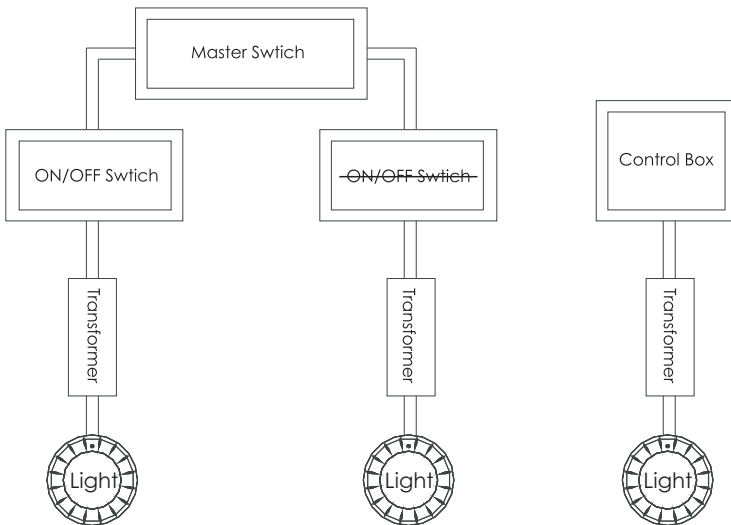

Figure 1
- 1) When the light is connected to the transformer directly, the on/off switch controls the colour changes (Associating a light with a transformer and an on/off switch is recommended; If you want all the lights to change colour at the same time, install a master switch, Figure 1).